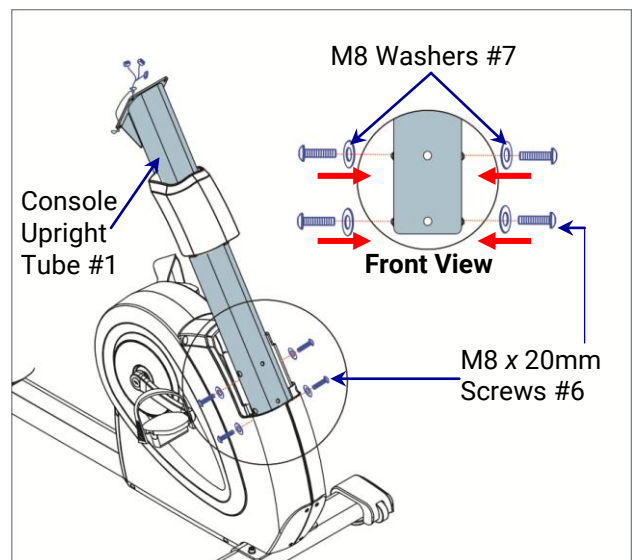

Fig 2.5-5B
- 3) Tighten (4) **M8 x 20mm Screws #6** and (4) **M8 Washers #7** (Pre-locked screws & washers on STEP 3) with 5 mm Allen Wrench to fix the Console Upright Tube on the Main Frame. (Fig 2.5-5B)